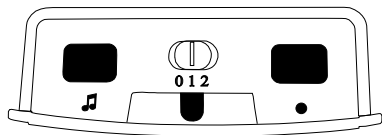

Figure 6: Receiver, upper side
Using the signal mode slide switch (in fig. 6 "0 1 2") you can select the signal mode. Kindly keep in mind that the symbols are always displayed with coloured light diodes.
- Keep the key »●« (fig. 6) pressed for some time. The symbols flash in sequence. Let go of the key as soon as you see the desired symbol.
- c) Press and hold the melody setting button »♪« (fig. 6) for two seconds. Let go of the button and press it repeatedly until you have found the desired melody (you can choose from 16 melodies).
- a) Keep the key »●« (fig. 6) pressed for some time. The icons light up in sequence. Let go of the key as soon as you see the desired icon.
- b) Now press key »●« and the melody setting button »♪« (fig. 6) at the same time. All icons light up briefly to confirm that the transmitter has been deleted from the receiver.